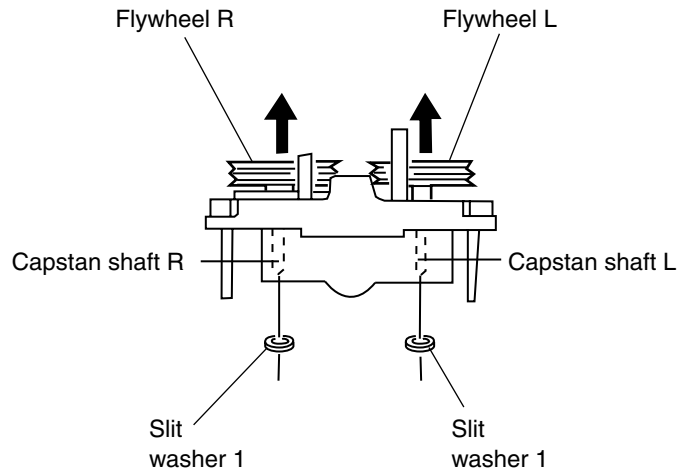

Fig. 7
■ **Removing the flywheel (See Fig. 7 and 8)**